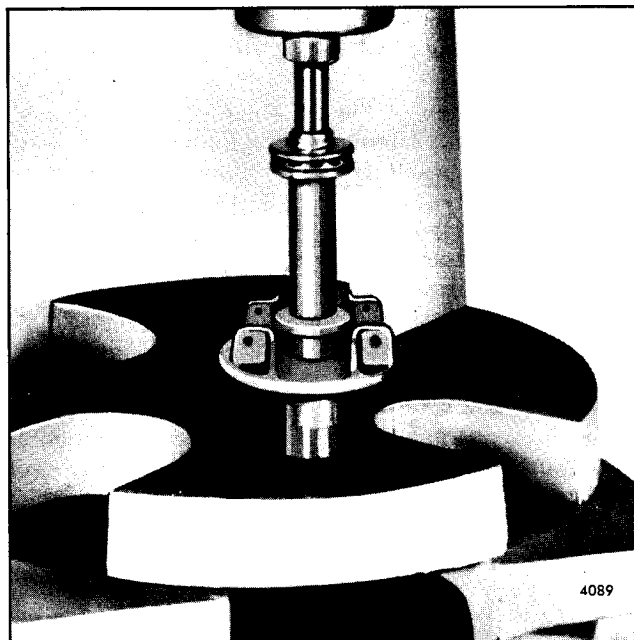

Fig. 17 - Installing Weight Carrier on Shaft using Tool J 8984
2. Press the shaft into the weight carrier, using tool J 8984 as illustrated in Fig. 17. The tool will properly position the weight carrier on the shaft. However, if a four-weight assembly is used, press the shaft in until it extends .555" to .559" from the weight carrier.